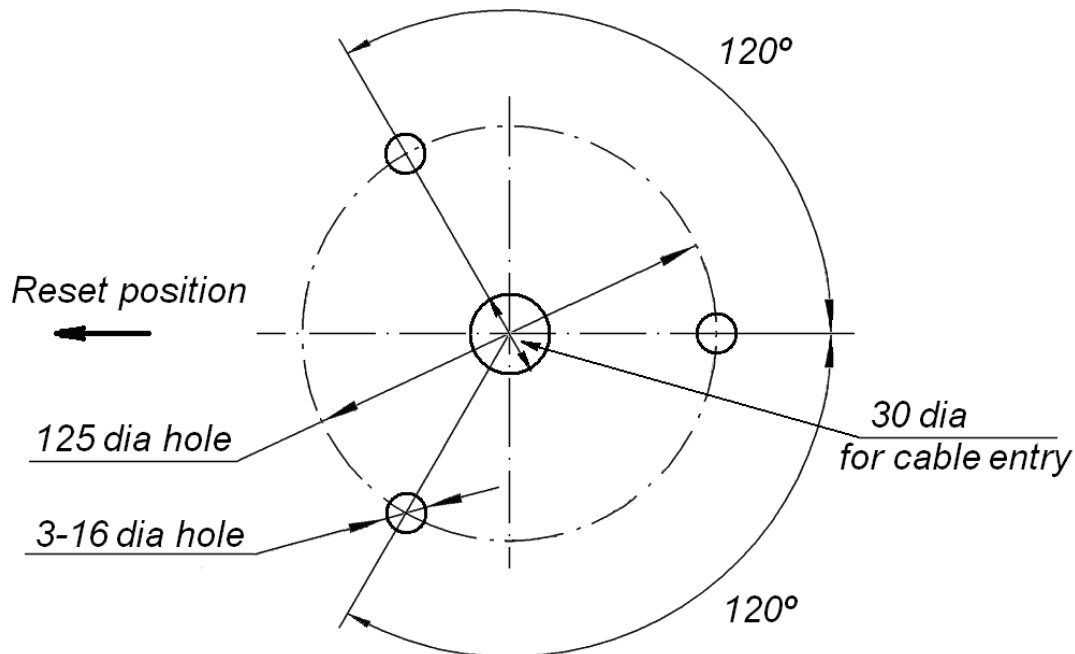

Figure 5 Mounting hole pattern
- to mark the mounting holes according to the enclosed mounting hole pattern (see Fig. 5);
- mark the mounting holes as per Figure 5 and electric raceways for the control cable (10) and the power cable (11);
- lay out the control cable (10) and the power cable (11) from the control unit to the gate post (1);
- take the cable connector block (16), mounted on the spring pins, out of the stationary post with flange (2);
- connect the control cable and the power cable to the cable connector block (16);
- install the cable connector block (16) into the stationary post with flange (2) at height suitable for further installation;
- install the gate post (2) upright into the run position (it is recommended to use joint liners if need be);